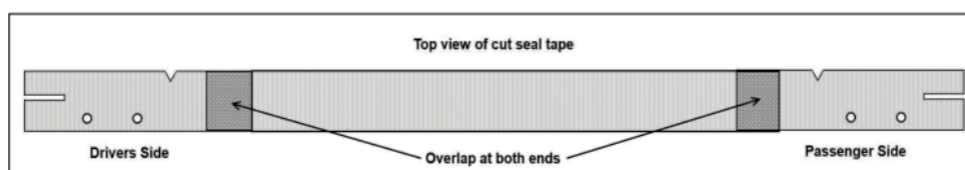

Figure 18
- Required tools: Drill, 4mm Bit, Rivet Gun Use the remainder of the tape to cover the remaining gap between the center section of the headboard and the cabin end of the tub. Overlap the remaining tape evenly at both ends (approx. 30 -40mm). Refer Figure 18.